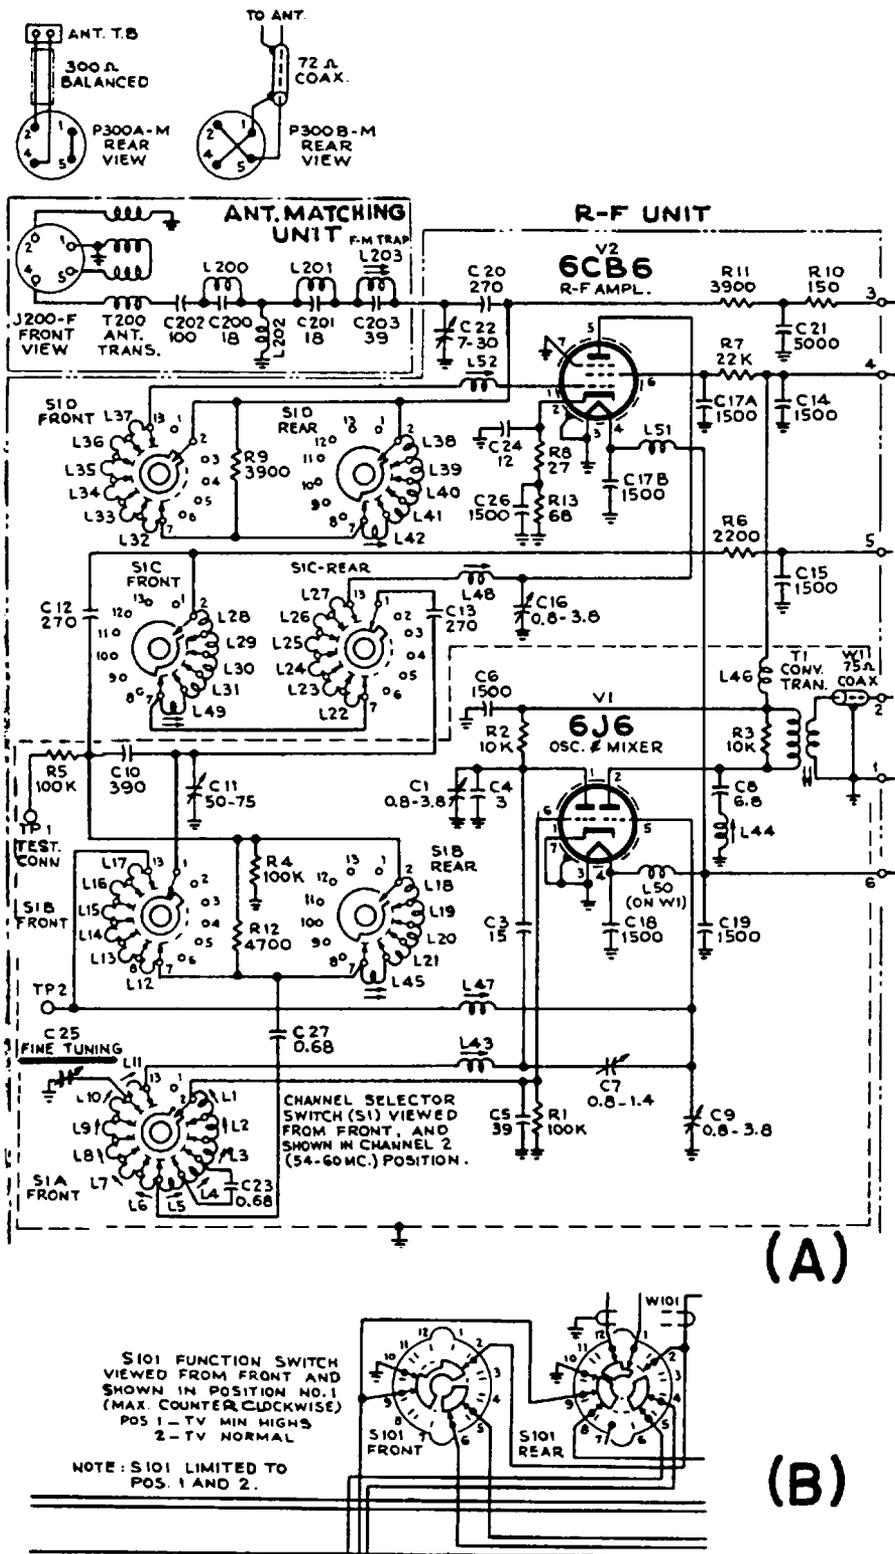

Fig. 1-10. How wafer-type switches and their connections are shown on service schematic diagrams.
For channel switching and other purposes, multiposition, multi-contact switches of the wafer type are generally used. A typical wafer switch is shown in Fig. 1-9. Examples of how these switches may be shown in schematic diagrams are given in Fig. 1-10. There is nearly always a note on the diagram stating how the switch is drawn, especially whether from a front view or from a rear view. In Fig. 1-10 (A), the note states that switch S1 is drawn as viewed from the *front*. The wafers are designated S1A, S1B, S1C, etc., beginning with the wafer nearest the knob of the switch. Each wafer has contacts on both the front and the back, and usually both the front and the back of each wafer are used
for a separate circuit. There is, therefore, a separate schematic diagram for the front and for the back of each wafer, when both front and back are used. The diagram shows the contacts in the same relative position as they actually occur around the wafer. Since in this case each wafer is drawn as viewed from the *front*, the rear of each wafer is shown as though the viewer were looking *through* the wafer at the back contacts. Thus contact 1 on the front is also contact 1 on the rear, and the same with the other contacts. Most of these switches are so constructed that contacts in the same position front and rear cannot be insulated from each other. Note that in the example of Fig. 1-10 (A) the contacts used on the front of each wafer are left blank (unconnected) on the rear, except for wafer S1A, of which only one side is used. Sometimes switches are connected so that the connections on each side of the wafer are staggered, so that only alternate contacts are used. Then only six positions may be used instead of 13, and the switch rotates two contact spaces for each position, rather than one.
Figure 1-10 (B) shows another way in which wafers are sometimes shown. The wafers are drawn with their physical outline, although the idea of presentation is exactly the same as in (A).